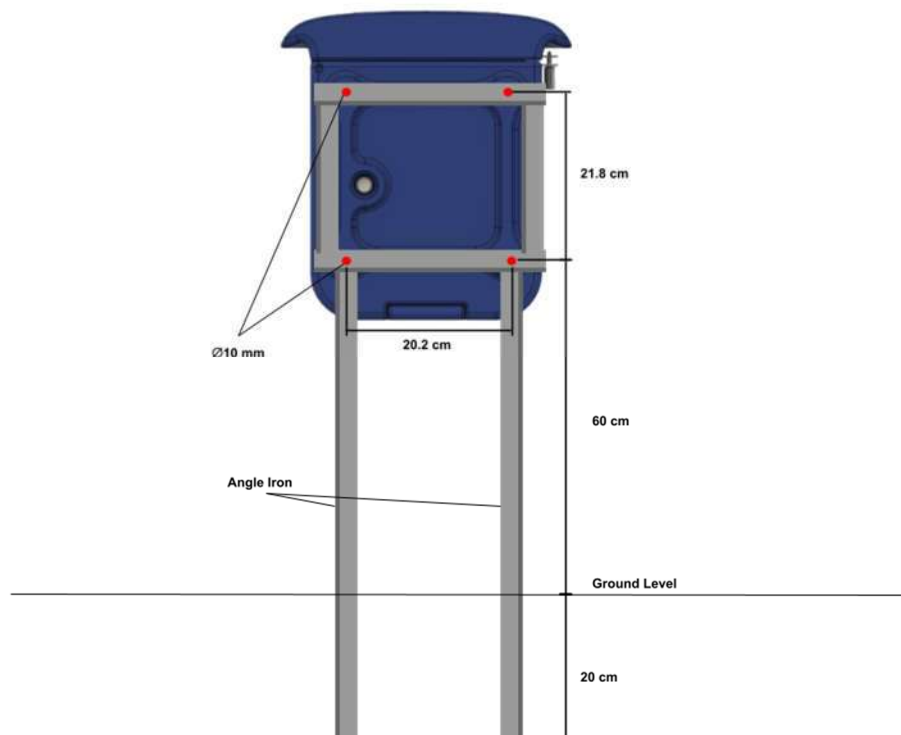

Figure 11: Free-standing TuriTap frame dimensions
- a. Create a rectangular frame for the TuriTap to be mounted to. The rectangular frame should include four holes that are at least 10 mm in diameter and spaced 218 mm x 202 mm apart to match the mounting holes on the back of the TuriTap enclosure (Figure 11). If using angle iron, a skilled welder should be able to attach the pieces.